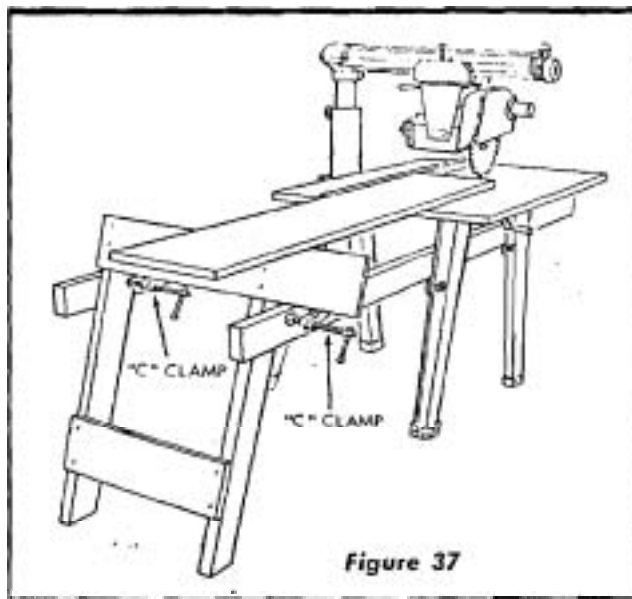

Figure 37
6. Place the support stand in position with the upright members on the stand inside the 2 x 4's attached to saw table legs. (See figure 37.)
7. Position the lower ends of stand uprights outward until the cut angles fit the floor and secure the stand uprights to the 2 x 4's on the saw with two "C" clamps as shown in figure 37.
8. Lay a board on stand and saw table in ripping position as shown in figure 37, and adjust the angle of the stand until the board to be ripped is level with saw table.